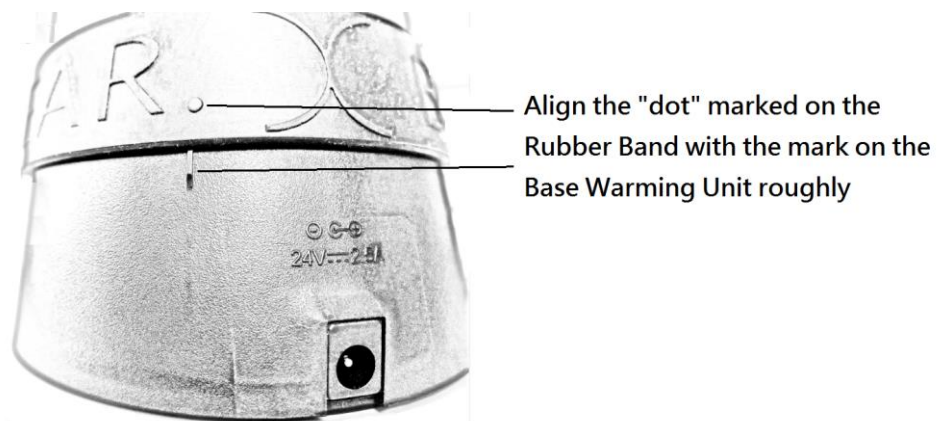

Fig. 2 Alignment of Rubber Band
- Align the “dot” mark at rubber band with the mark at “Base Warming Unit” as shown Fig. 2.